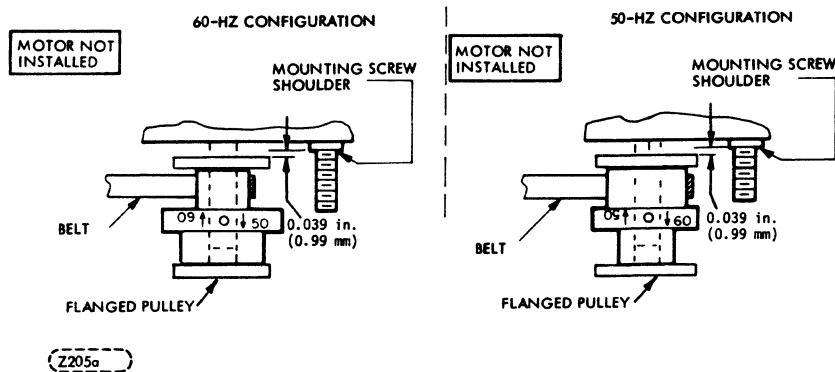

FIGURE 6-11. DRIVE-PULLEY REVERSAL
- Position pulley allowing tolerance of 0.039 in. (0.99 mm)  $\pm$  0.10 in. (0.254 mm) between shoulder of motor mounting screws and pulley (Figure 6-11).